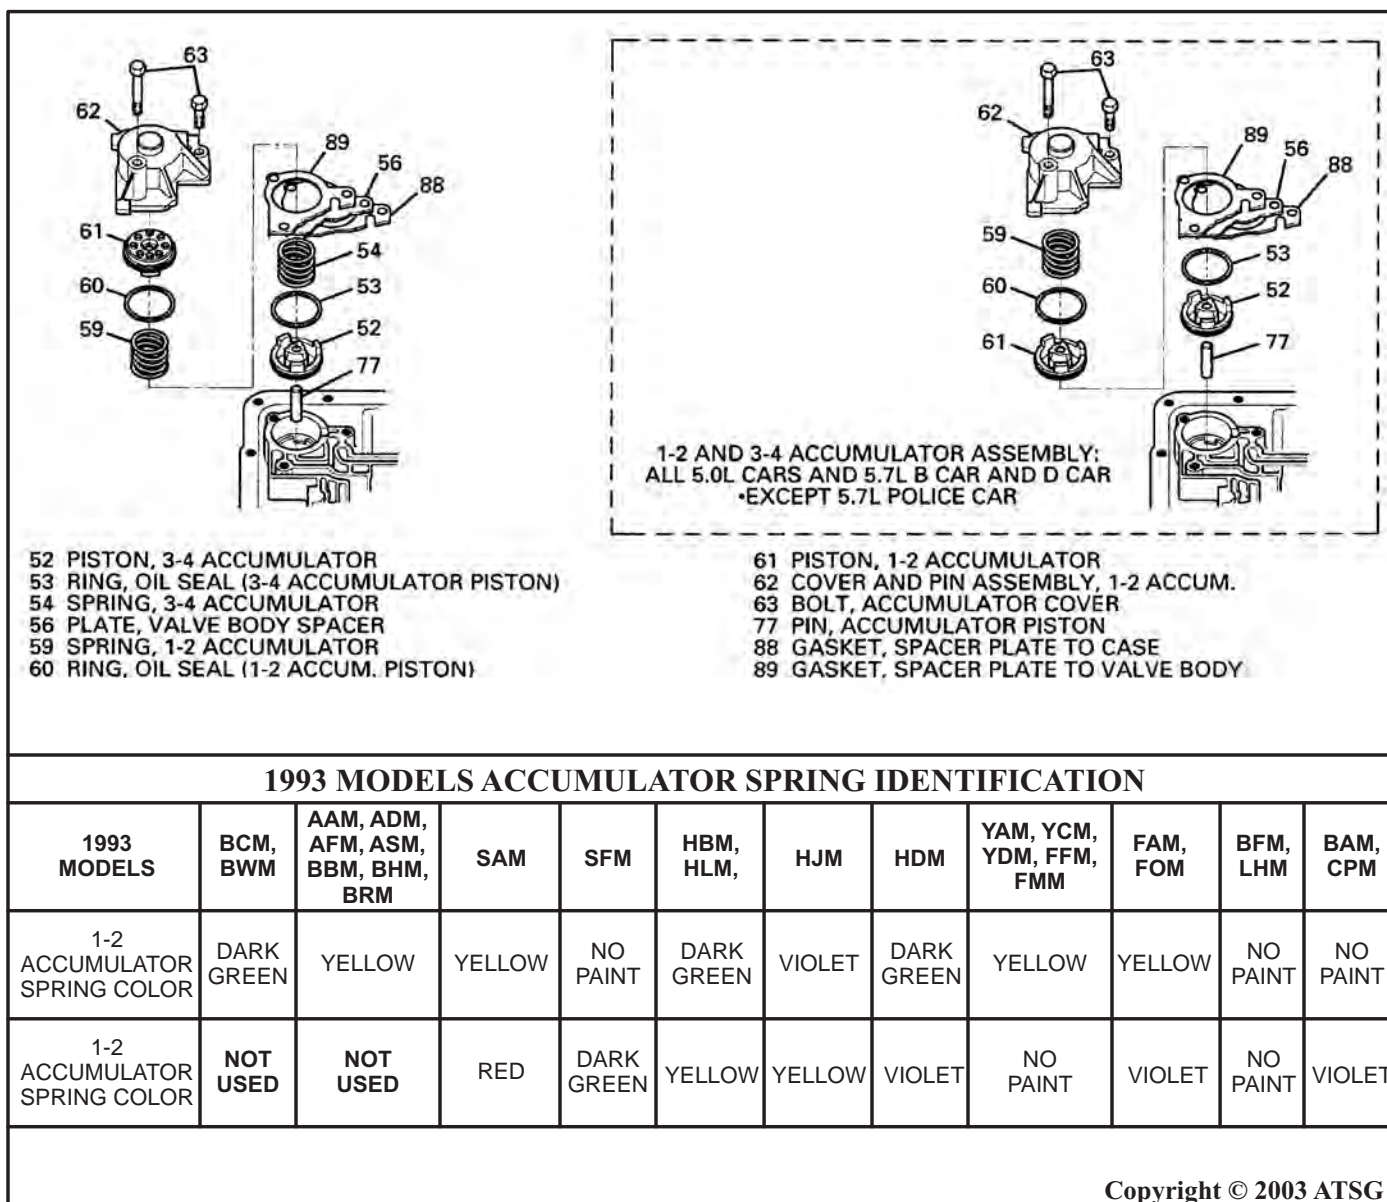

Figure 70
CHANGE: Beginning at the start of production for 1993 models, *some* 700-R4 transmissions were built with a new calibration that *eliminates* the 3-4 accumulator spring in the case and *inverts* the 1-2 accumulator spring and piston in the 1-2 accumulator housing, as shown in Figure 70.
- (1) 3-4 ACCUMULATOR SPRING - Eliminated on all 5.0L cars, all 5.7L "D" cars, and all 5.7L "B" cars *except* 5.7L police car, as shown in Figure 70.
- (2) 1-2 ACCUMULATOR SPRING AND PISTON - Inverted on all 5.0L cars, all 5.7L "D" cars, and all 5.7L "B" cars *except* 5.7L police car, as shown in Figure 70.
Use the accumulator spring chart in Figure 70 to keep these calibrations separated.